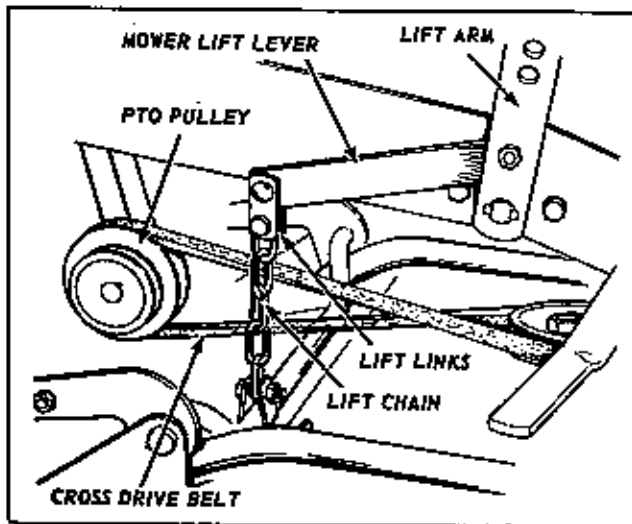

FIG. 3
3. Place the tractor lift lever in its rear position and attach the mower lift lever to the tractor lift arm on right hand side of tractor as shown in figure 3. Use hex capscrew, flatwashers, and hex nut furnished for this purpose.
4. Connect the mower lift chain to the lift lever by fastening the lift links in place with a pin and hair cotter as shown in figure 3.
5. Place the cross drive belt in position on the mower drive pulley. Give the belt a 90° twist towards the left hand side of the tractor and mount belt to larger pulley of power take-off as shown in figure 3. When installed in proper manner, the belt should run from the left side of the mower pulley to bottom side of power take-off pulley.